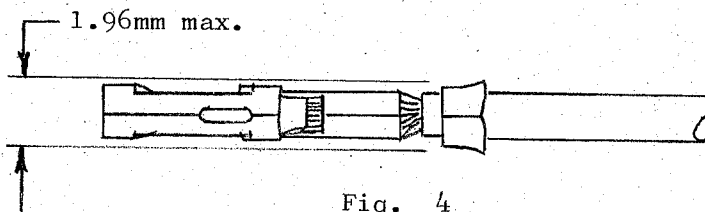

Fig. 4
(2) After crimping, bend deformation sidewise of contact to the contact axis, shall be within the limit as specified in Fig. 4.